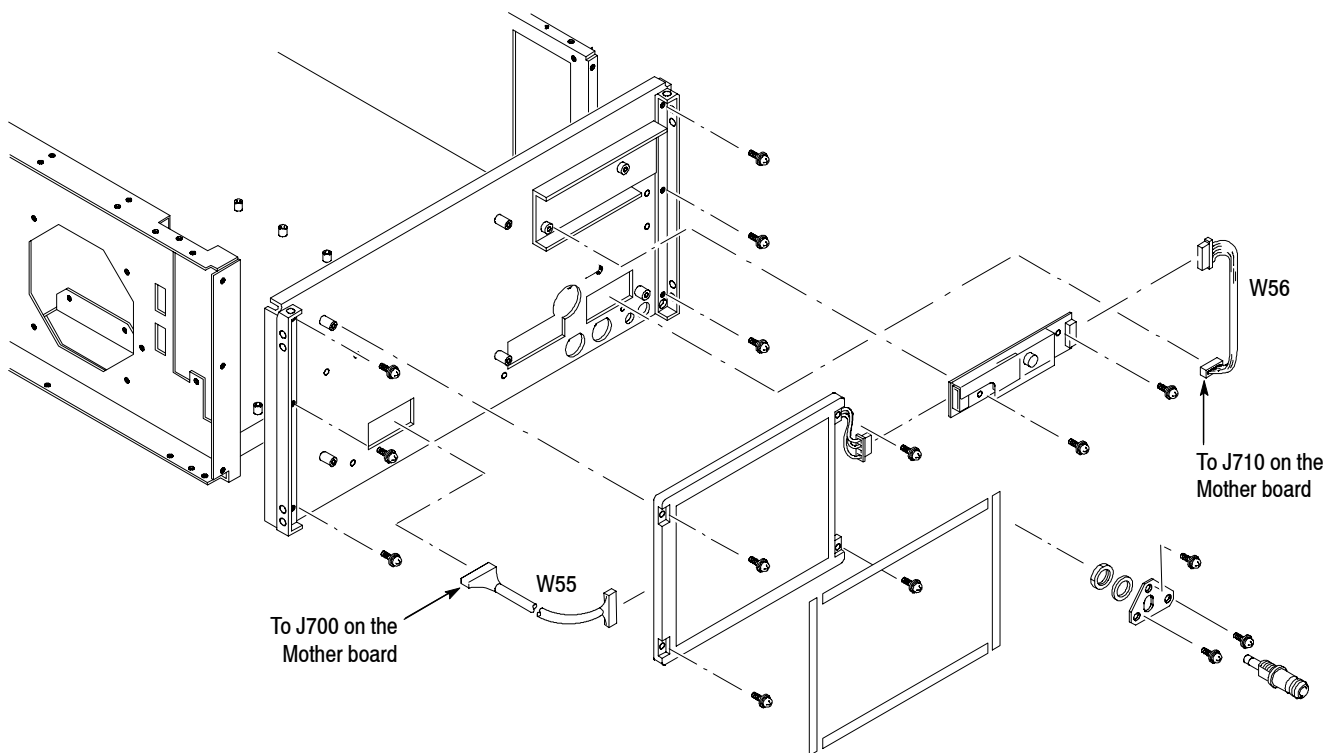

Figure 6-28: LCD display removal
3. *Remove the RF input connector:* See Figure 6-28.
3. *Remove the inverter:* See Figure 6-28.
4. *Remove the LCD display:* See Figure 6-28.